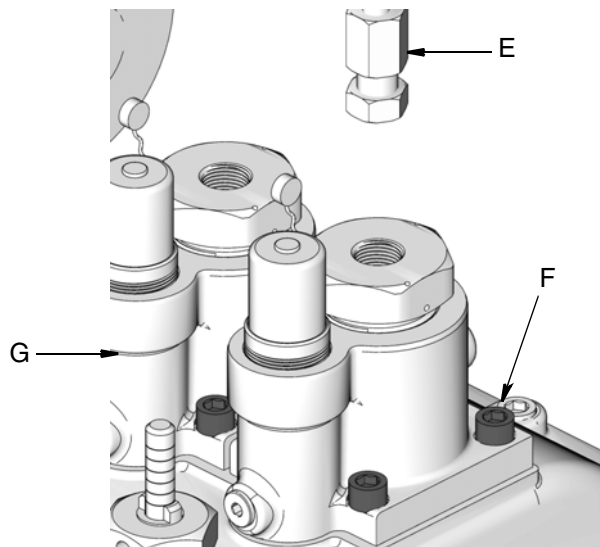

FIG. 10
- b. Disconnect the discharge tubing (E) (FIG. 10).
- c. Remove 4 screws (F) holding pump to cover (FIG. 10).
- d. Remove the pump assembly (G) (FIG. 10).
- c. If valves are operating properly, disconnect the discharge tubing (E) (FIG. 10)
- d. Remove 4 screws holding pump to cover (FIG. 10, page 9).